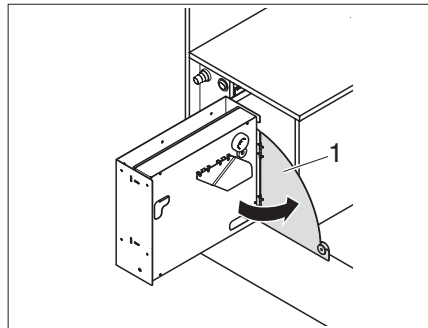

Fig. 75 Swivelling the side panel
- ▶ Swivel the side panel (Fig. 75,1).